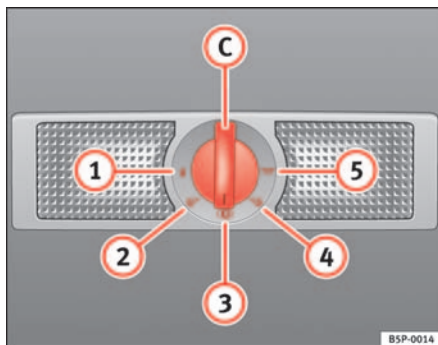

Fig. 82 Detail of the roof:
The switch ⇒ fig. 82 C is used to select the following positions:
In switch position ⇒ fig. 82 ①, the interior and reading lights are switched off.